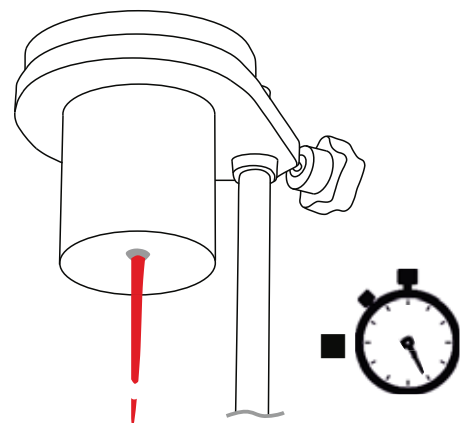

Figure 5
- 8 Watch the flow of liquid from the orifice and stop the stopwatcha the moment the flow breaks for the very first time (Figure 5).